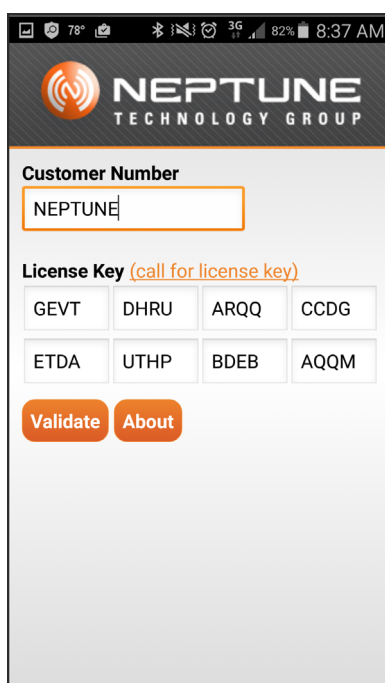

Figure 1 License Key Setup
Before you can use the app, you must obtain a customer number and a license key. To obtain a license key, contact Neptune NGO Support at (800) 647-4832. If you have an Android phone you can select **call for the license key** within the app. See Figure 1 on page 3.
- 1 Enter a valid Customer Number and License Key. See Figure 1 on page 3.